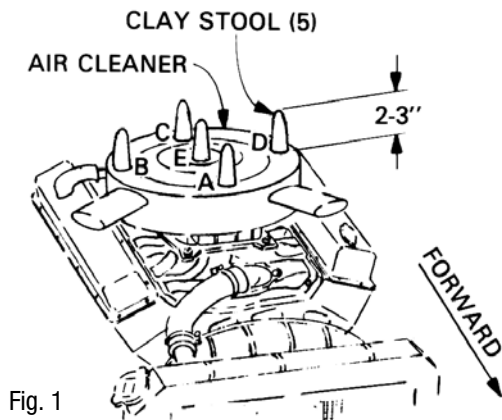

Fig. 1
Torque all bolts circled in Figure 1 to 25 ft./lbs. See Figure 1 for proper sequence.
3. Cut the T.B.I. base gasket to match the manifold (see Figure 1).
2. Position stools on air cleaner at front, rear, each side and on center stud. See Figure 1.